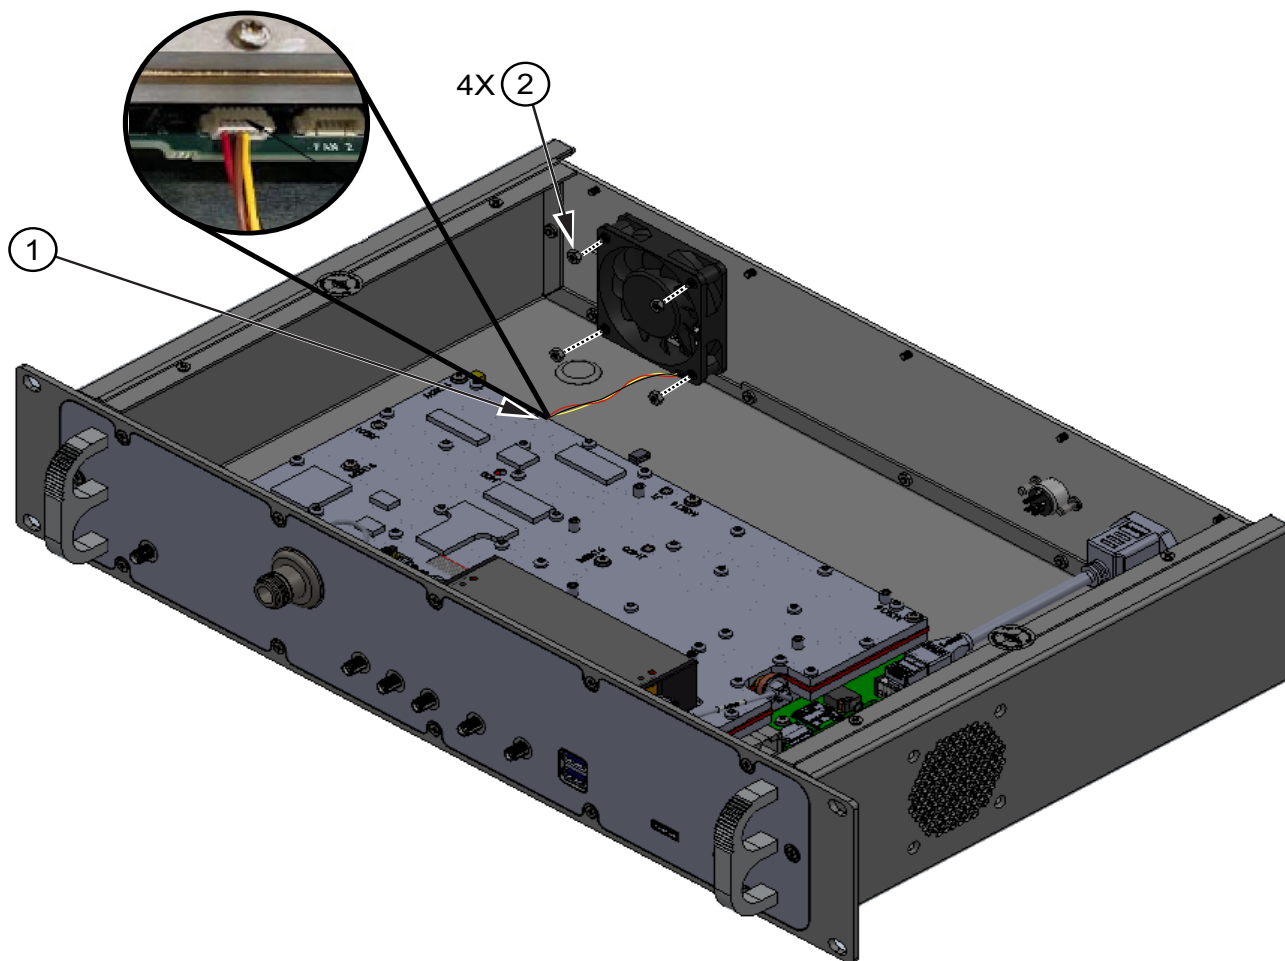

Figure 3-11. Fan Removal
2. Disconnect the fan cable from the Main PCB shown at location 1. See Figure 3-11.
3. Using 5.5 mm wrench, remove the four nuts shown at location 2. See Figure 3-11.
Note When reinstalling the fan, connect the fan cable to the Fan 1 connector on the Main PCB. See Figure 3-11.